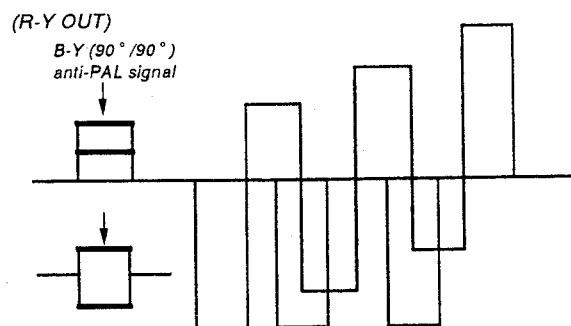

Fig. 22
- 2) Adjust **CHROMA NTSC 443 ACC OFF** in the same manner as 9-4). (Fig. 22)
- 4) Adjust **B-Y PHASE PAL** so that the B-Y anti-PAL signal waveform is 0. (Fig. 22)